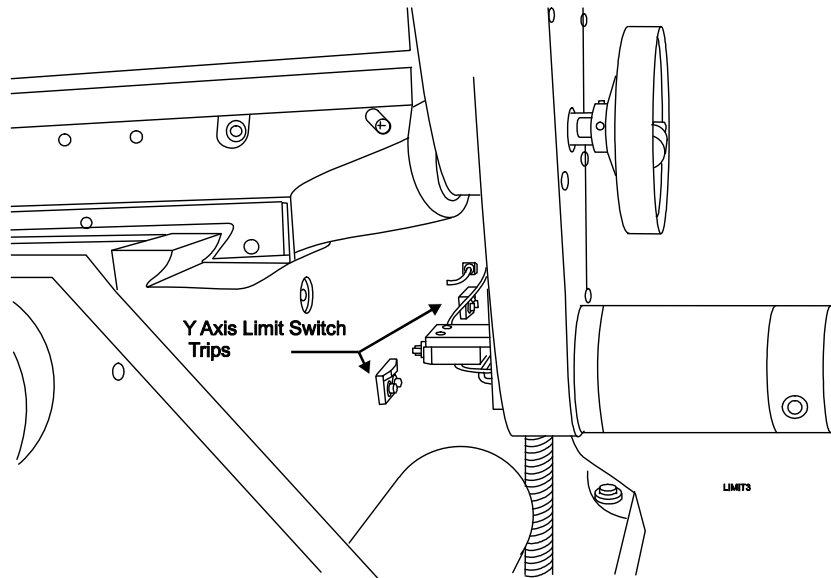

Figure 3-18, Y-Axis Limit Switch Trip Installation
7. To install the Y-axis trips, refer to **Figure 3-18, Y-Axis Limit Switch Trip Installation**. Turn the Y-axis handwheel so that the saddle is as far from the column as possible.